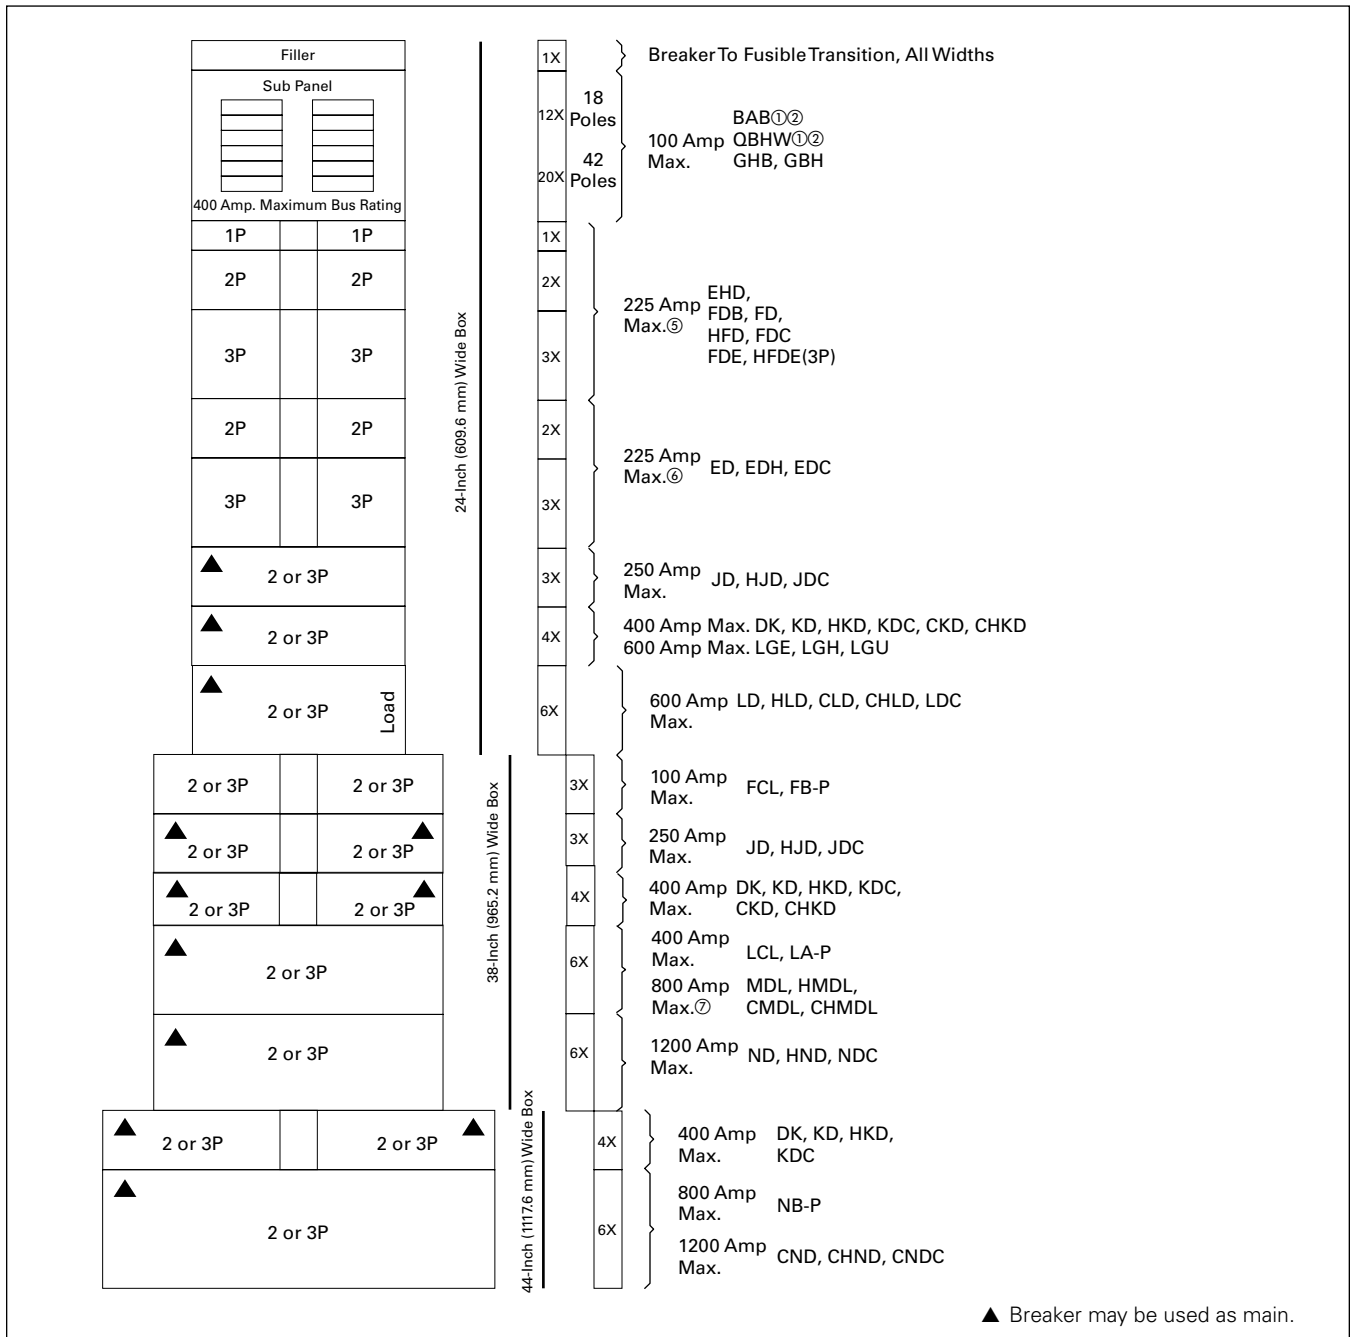

Figure 2-4. Layout for Branch and Horizontally Mounted Main Devices — PRL4B
- * = Space available for branch devices. For device sizing, see **Figure 2-4** on **Page 2-18**.